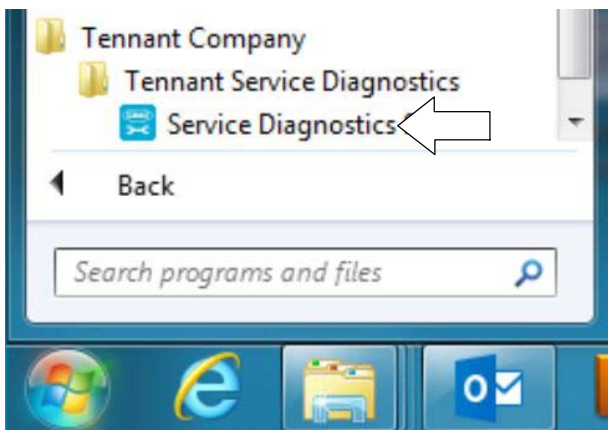

Fig. 9
2. Start the Service Software Application program “**Service Diagnostics...**” (Figure 1). Refer to Figure 9 for further details.
The software is pre-installed on your computer as shown below. The software application is titled “Service Diagnostics” (Figure 9).
7. After the service application software is installed on your computer, refer to figure 9 to access the program.
5. After the software is installed on your computer, refer to figure 9 to access the program.